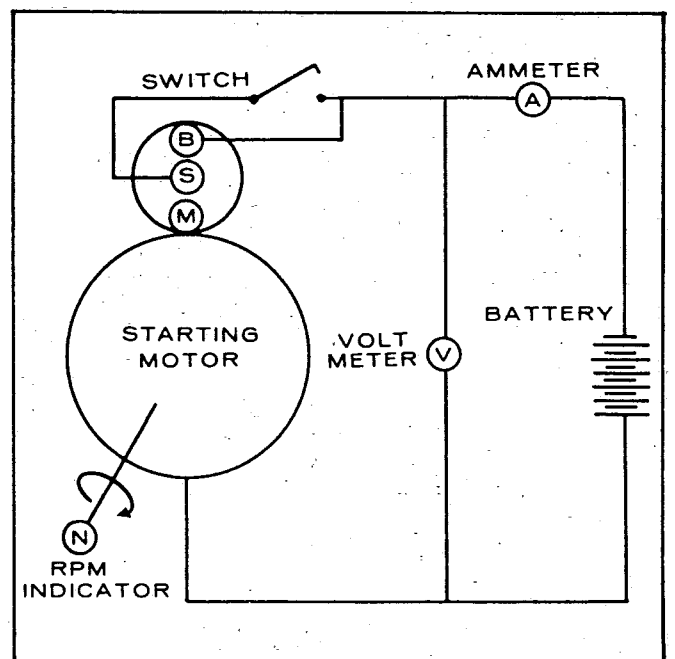

FIGURE 31. STARTER MOTOR WIRING
1. For no load test, the starting motor is wired as shown in Figure 31 and run. The value of the meter reading at this condition should be as follows: